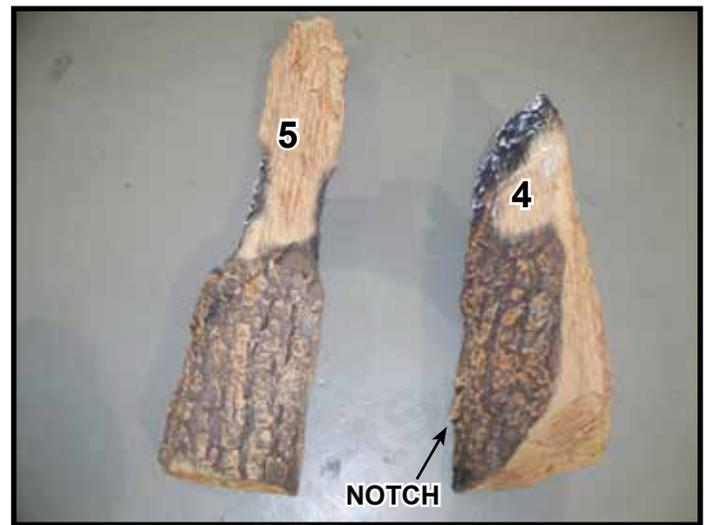
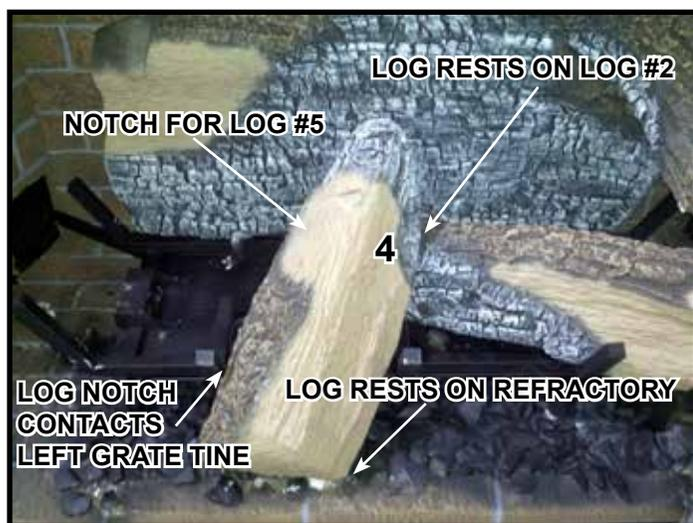

Figure 7.
Figure 8.
**Log #4 (SRV2282-704):** See Figure 7. Place Log #4 between the left and center grate tines. The base of Log #4 should rest on the refractory. Notch on log will rest on the front left grate tine and the top of log will rest in notch on Log #2. See Figure 8.
**Log #5 (SRV2281-705):** Locate flat area on Log #4 that will be used to position Log #5. See Figure 8. Place Log #5 into appliance as shown in Figure 9. The left side of the log will rest on bottom refractory and pilot bracket. It will also lean against rear grate tine. The right side of Log #5 will rest in notch on Log #4. There will be a space approximately 1-3/4 inches from the end of the log to the left side refractory.